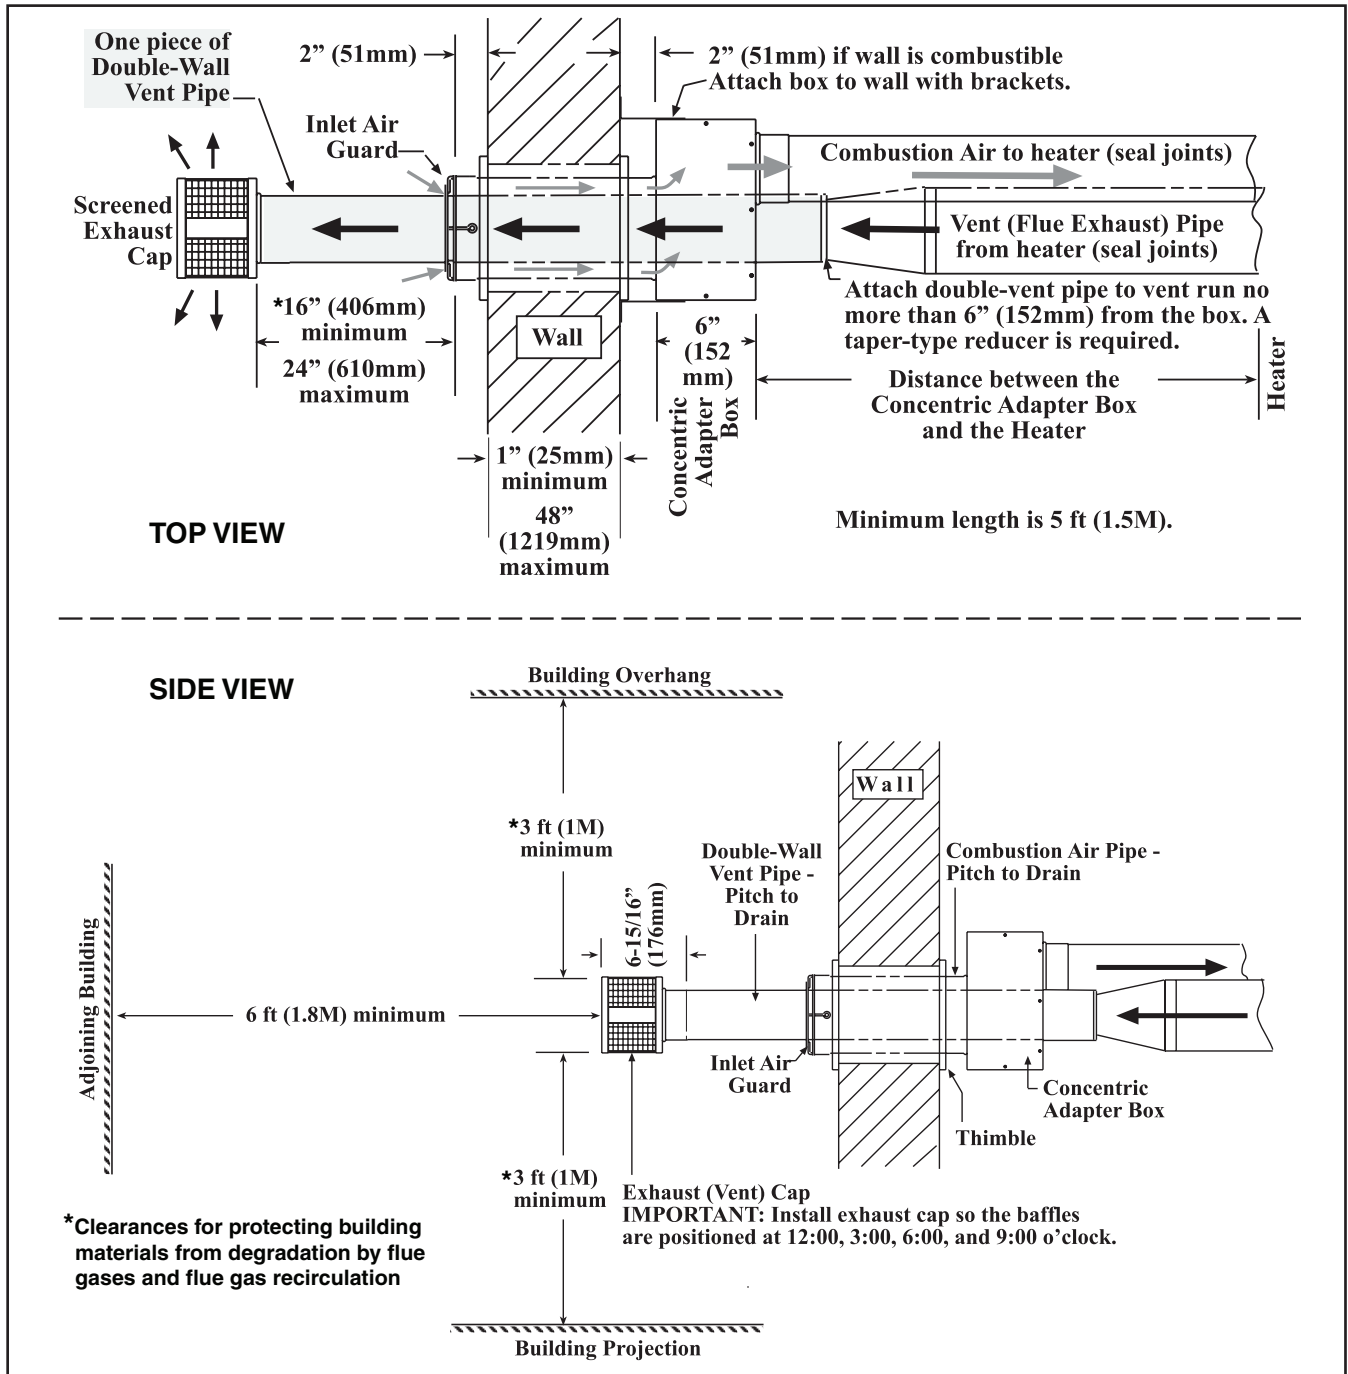

Figure 23. Option CC6 Installation
5. Connect outside section of combustion air pipe to concentric adapter box (see Figure 23):
- (1) Bracket length from box to wall
- (2) Plus wall thickness
- (3) Plus 2 inches (51 mm) beyond wall
6. Secure concentric adapter box to wall (see Figure 23):
- a. Position inlet guard over end of combustion air pipe in accordance with Figure 23.
- a. Refer to Figure 23 to determine lengths of each pipe segment and to calculate total length required. Transition to single-wall or Category III vent pipe run must be made maximum of 6 inches (152 mm) from heater side of box.
- d. Ensure that exhaust cap is aligned so that its baffle strips are positioned on horizontal and vertical center lines (see Figure 23). Install cap in accordance with Figure 11.
10. Verify compliance with Figure 23 and with all specific venting requirements listed above.